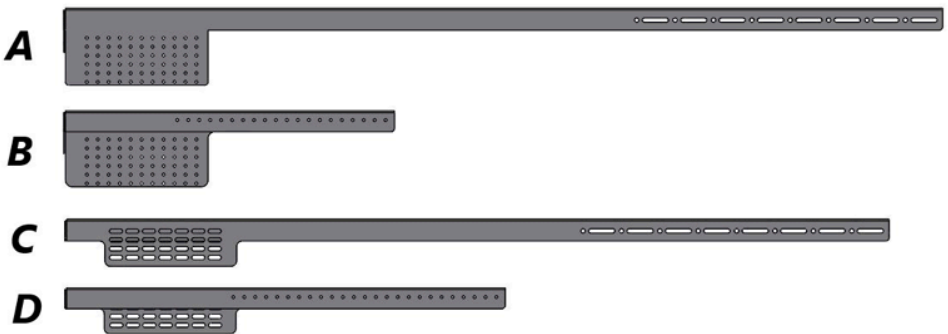

Fig. 3
4. Take the accessories supplied in the package (A-B-C-D see fig.3),